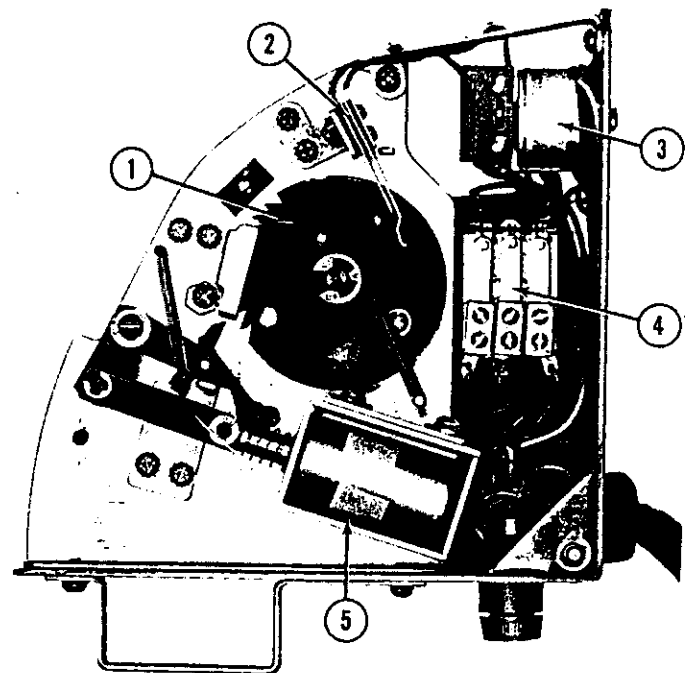

Fig. 24. PLAYRAK
b. The playrak assembly (Fig. 24) receives one of four different electrical impulses from the coin switch each time a proper coin is deposited. The playrak mechanism (described on pages 5, 6, and 7) consists of two accumulator (escapement) wheels, a cancel wheel (Item 1) and cancel solenoid (Item 5), two stop levers, and two relays (Items 3 and 4). The functions of the playrak are: (1) To convert the various coin switch impulses to selection credits in accordance with the pre-determined price per play as set up on the stop levers and the 10 or 50¢ switch setting. (2) To establish the initial selection circuit for operation of the selector switch panel. (3) To cancel one of the credits racked up on the accumulator wheels each time a selection is made at the selector switch buttons. (4) To open the key switch (Item 2) and release timing relay No. 1 (Item 4) thus preventing further selection after all credits have been used and cancelled.